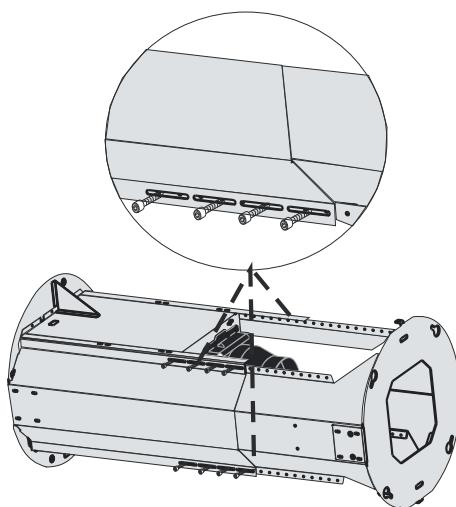

Fig. 13
2. To adjust the distance; remove the screws shown in (Fig. 13) and pull the motor block composed of two blocks in or out to adjust it to the correct measurement. Reinstall the screws you took out into suitable holes.